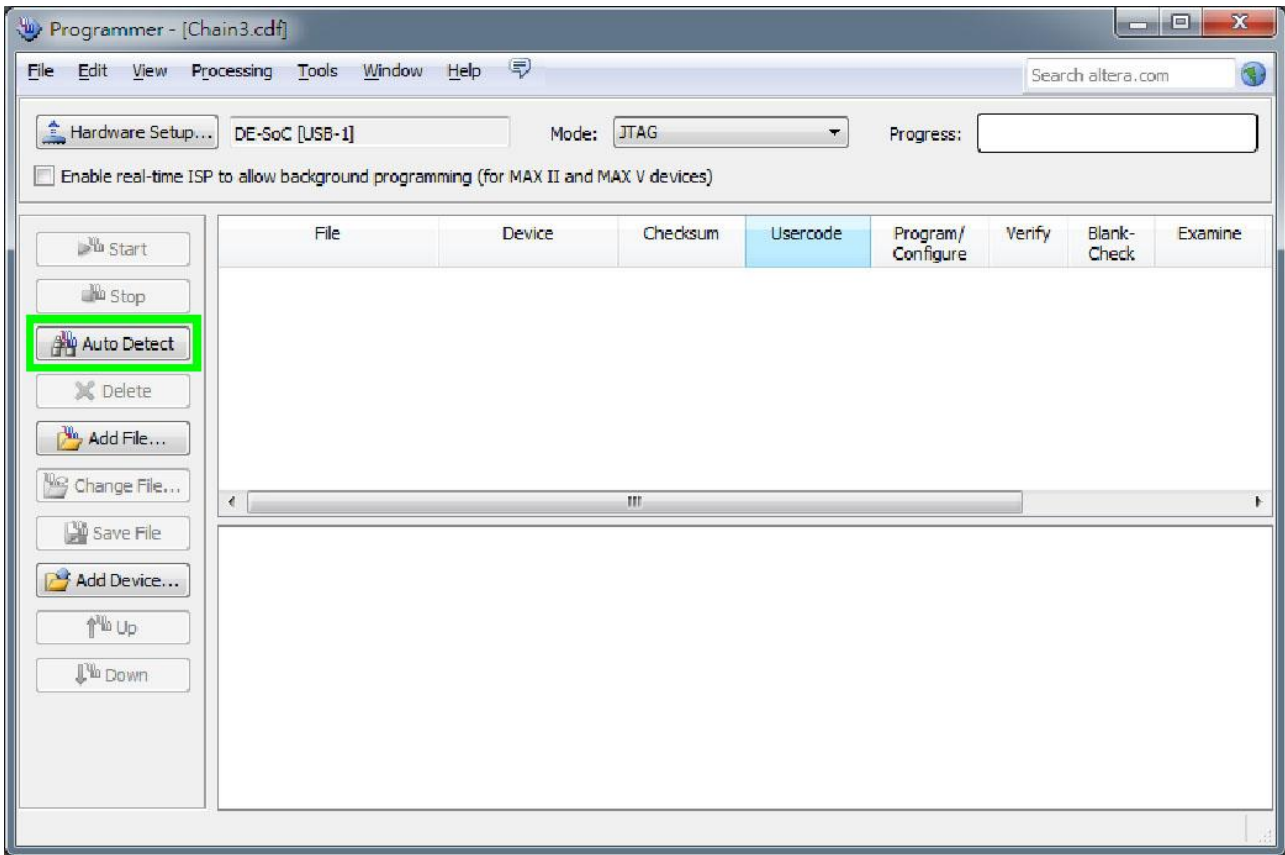

Figure 3-3 FPGA JTAG Programming Steps 1
- Open Programmer and click “Auto Detect “ as **Figure 3-3**